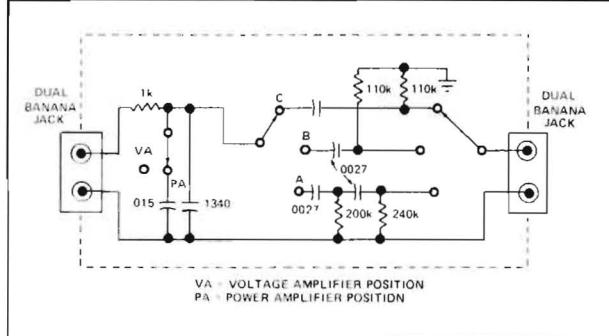
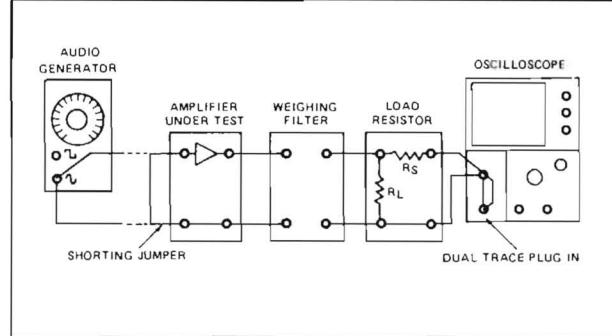

Figure 39 Weighting Network
Figure 40 Equipment Setup for Weighted Signal to Noise Tests
Various weighting filters may be specified for different kinds of equipment. The schematic of one commonly used type is shown in Figure 39.
To measure noise as recommended by the EIA standard the B section of the weighting filter shown in Figure 39 should be inserted in the test setup as shown in Figure 40.
- Set up the equipment as shown in Figure 40. Short the amplifier input. A dual trace vertical plug-in such as the Tektronix 5A18N must be used. If this procedure is used without a weighting filter, some form of a frequency limiting filter (usually a 15 kHz low pass) MUST be used.